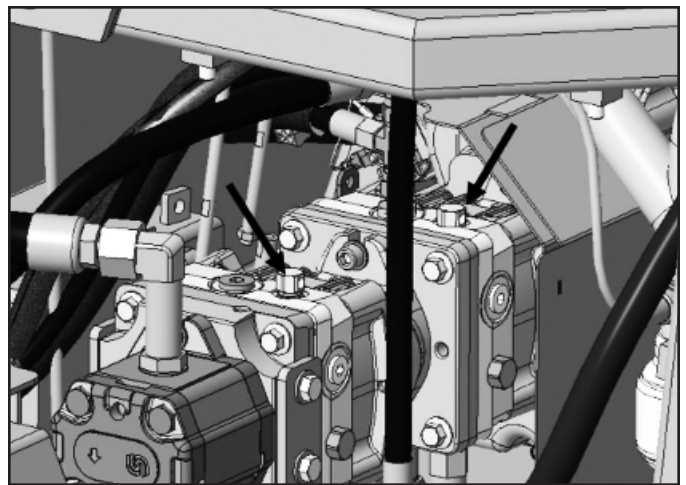

Figure 38: Hydraulic dump valves
3. Move unit by “dumping” drive system. This is done by loosening dump valve nuts on both pumps as shown in **Figure 38**. Do not completely remove.
- Tighten both dump valve nuts snug. See **Figure 38** from towing the machine for location.